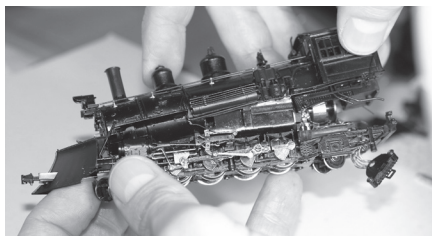

Figure 13 - Remove the assembly from the chassis
7. Lift the rear of the boiler assembly, pull it back slightly, and remove the assembly from the chassis as shown in Figure 13. *Again, please note that sander pipes, cab rear handrails, and the injector piping all need special care when separating the boiler from the chassis.*